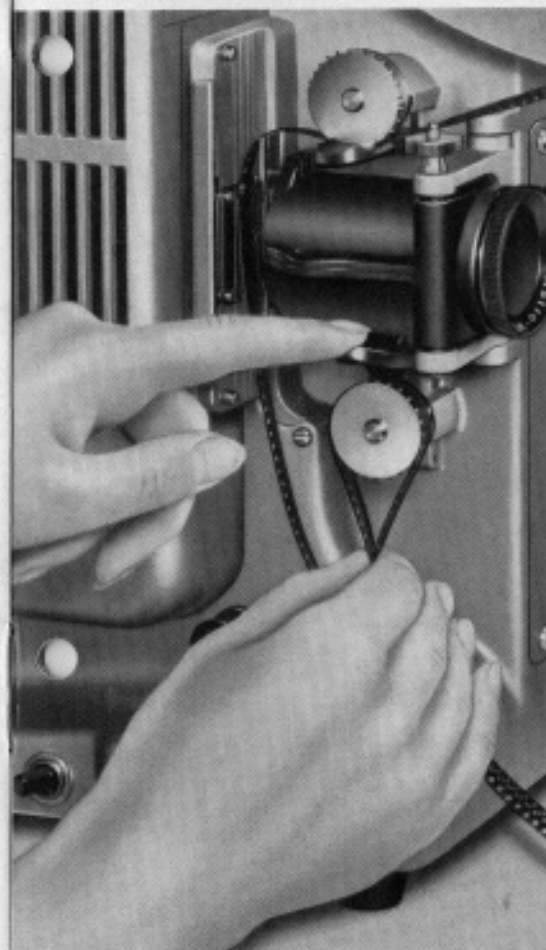

Fig. 18
5. Thread film through film channel and under lower sprocket; hold film in position with thumb and index finger of right hand and close pressure guide holder with left hand (Fig. 18).